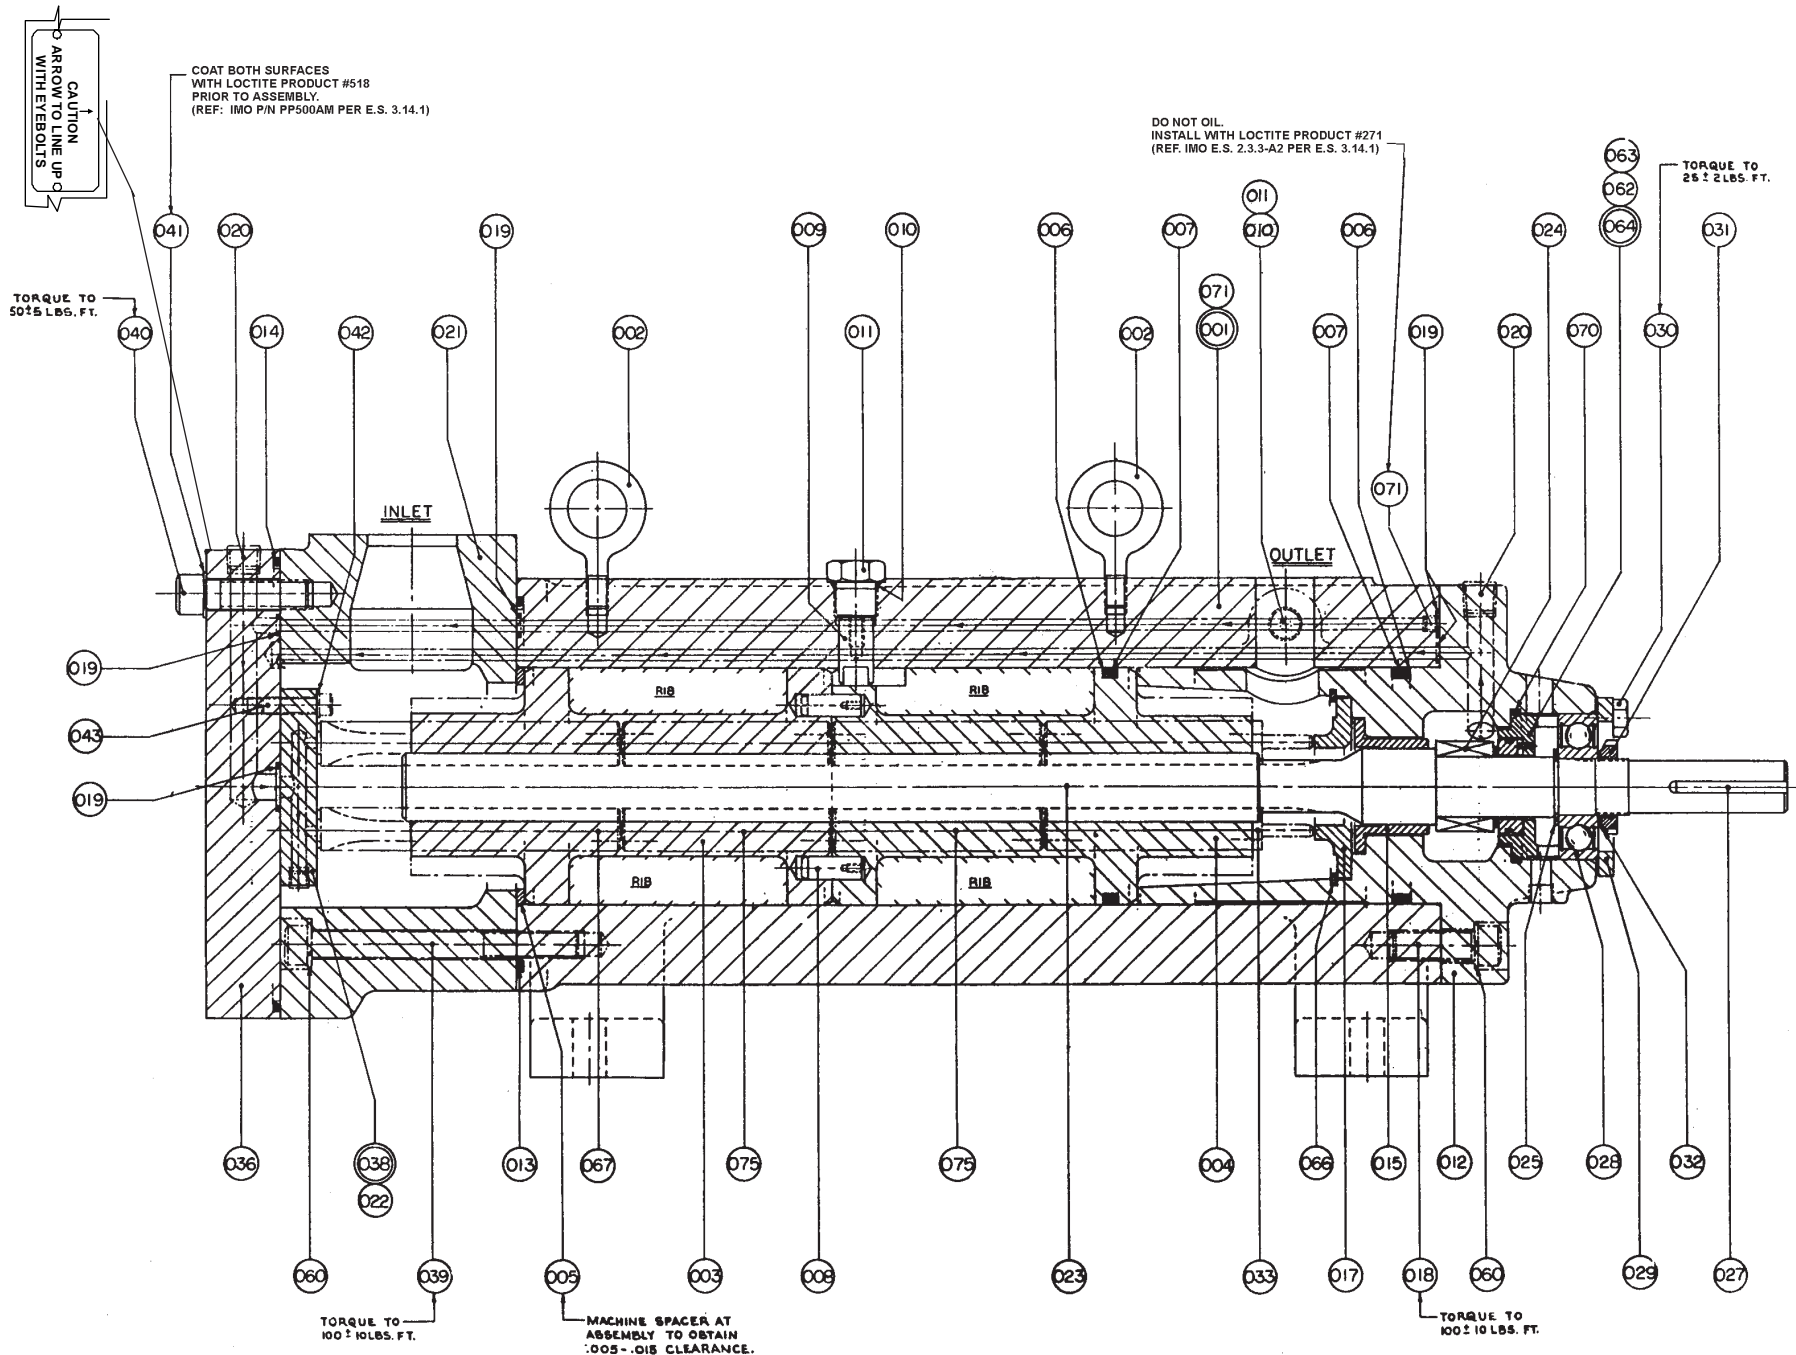

FIGURE 3 – PUMP ASSEMBLY – ROTOR SIZE 118
NOTE: When assembling the pump, refer to Figure 2 – Mechanical Seal, Figures 3, 4 and 5 – Assembly Drawings and Table 3 – Pump Parts List.
NOTE: Inlet head (21) may be rotated in 90 increments from position shown in Figures 3, 4 and 5.